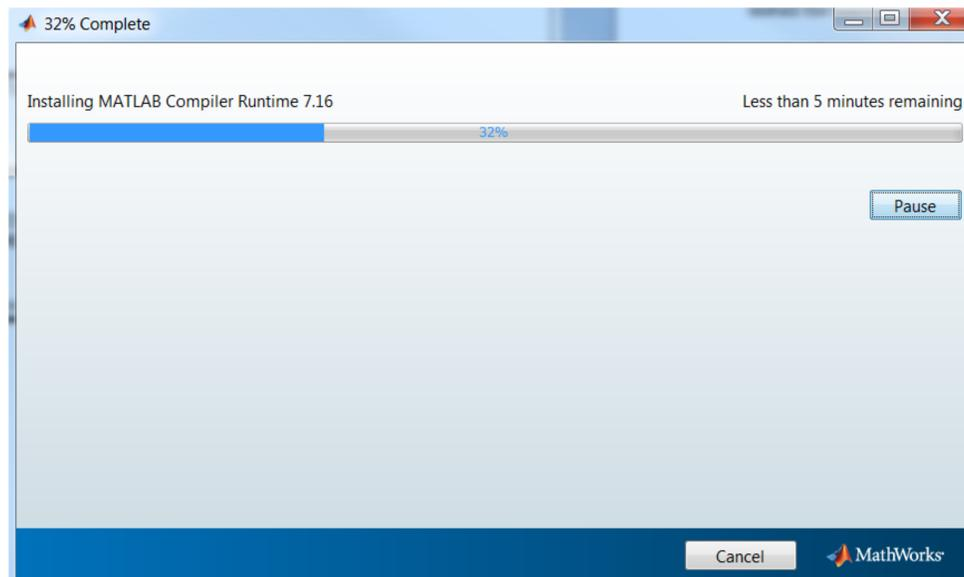

Figure 2. Installing the Matlab Runtime Engine (Progress bar)
2. Follow the onscreen prompts to install the Runtime engine. If there are no errors, Figure 2 appears showing the progress of the installer.